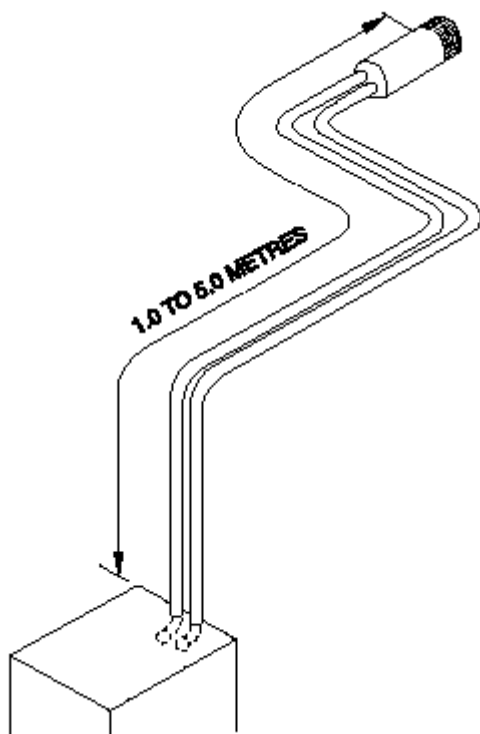

Fig. 17.2 Typical routeing of assembled flue
- Measure distances of flue pipe runs and note as a guide to cutting pipes. The maximum length of each air/flue pipe run must not exceed 5.0m (including a Horizontal BF Terminal) if the maximum of 4 air pipe bends and 3 flue pipe bends is used – see Fig.17.2. There is no minimum length.